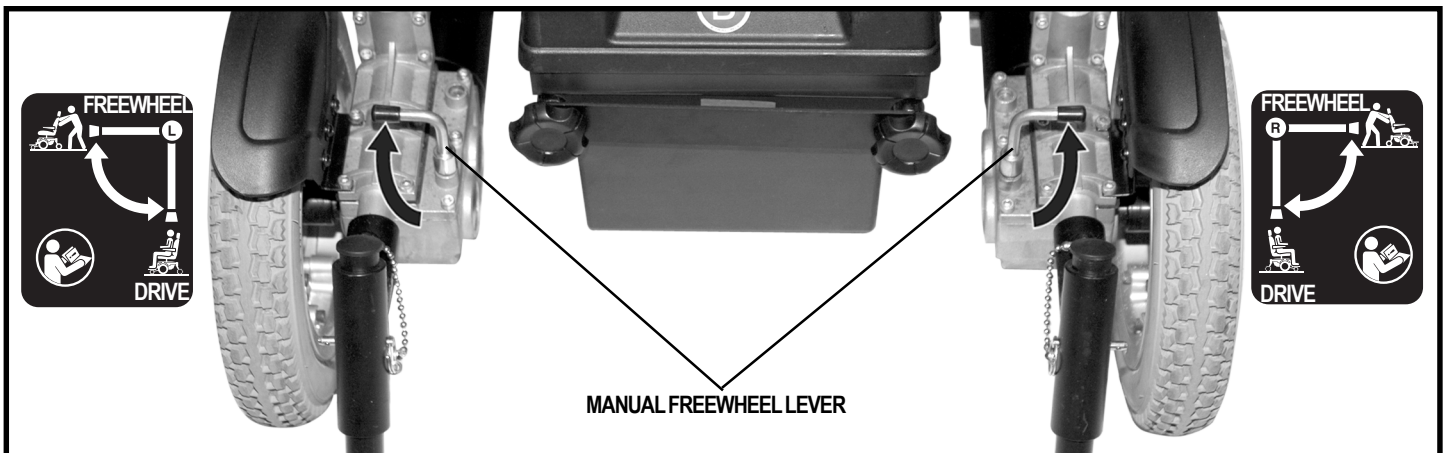

Figure 10. Freewheel Mode (Drive Disengaged)
2. Rotate the two levers outward to disengage the drive motors (freewheel mode). See figure 10.
8. Place the power chair in freewheel mode. See figure 10.